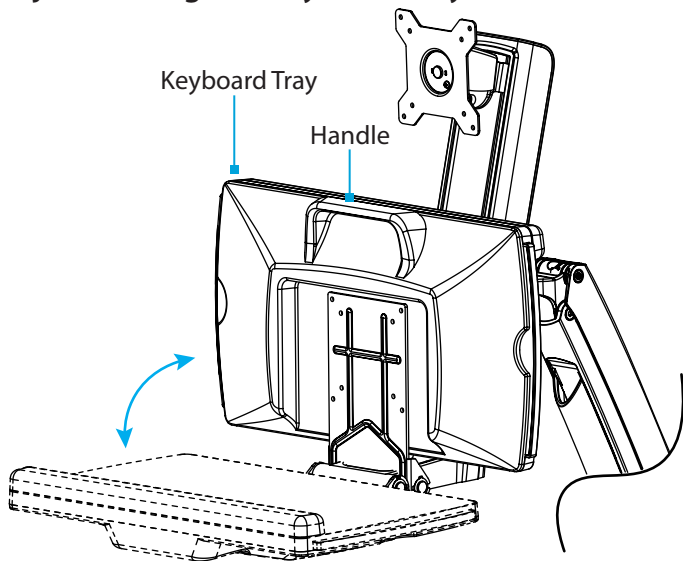

Figure 26
1. Grab the **Keyboard Tray** by the sides or use the **Handle**. **Pull Up** or **Push Down** on the **Keyboard Tray** to adjust the angle between 0° to 90°. (Figure 26)